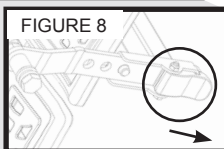

FIGURE 8
- Push down on the Cam Lock (Figure 8) to lock it and secure the Roller Hinge.